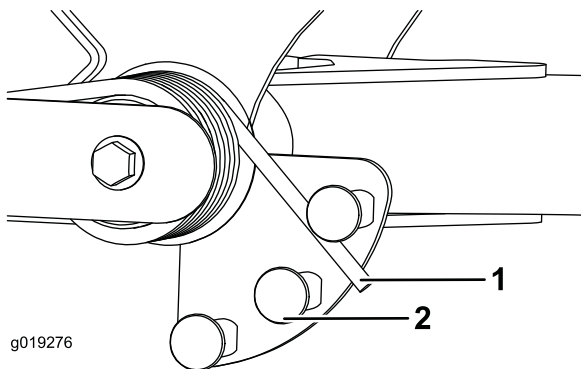

Figure 38
2. Insert a tube or similar object onto the long spring end and pivot it around the spring actuator to the desired position (Figure 38).